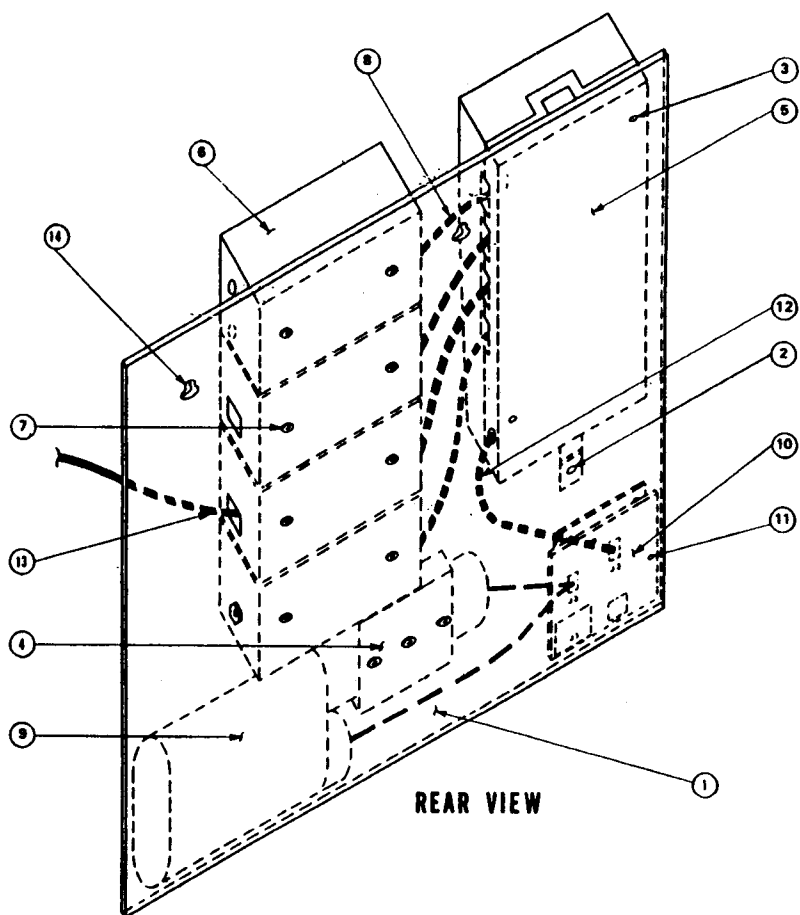

Figure 2-1. Typical Installation Arrangement
Figure 2-1 illustrates the mechanical and electrical assembly for a typical installation. Each site will have its own unique requirements for data collection. The type and quantity of Signal Conditioning Modules and sensors/transducers will vary for each application.
Figure 2-1 illustrates a fully populated RR-200 Wall Mounting Plate (item 1). The OM-160 components may be housed in a RR-205 Tamperproof Enclosure (not shown). The Wall Mounting Plate comes equipped with a spring clip (item 2), two locating buttons (item 3), and a battery clip (item 4). Refer to Figure 2-1 and assemble components on the Wall Mounting Plate in the order specified.
1. Mount the OM-160 Data Logger (item 5) to the Wall Mounting Plate. Locate the OM-160 on the locating buttons; the spring clip will secure the Data Logger in place.
2. Mount one to four Signal Conditioning Modules (item 6) on the mounting plate with two each #4-40x1/4 Flat Head Nylok screws (item 7).